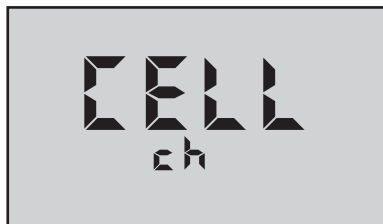

Figure 21
3. Press  repeatedly until you pass the FAC SEL location. The display will show a “CELL ch” (see Figure 21).